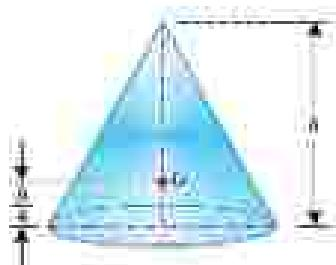

Fig. 6.7. Right circular solid cone.
10. The centroid of right circular solid cone is at a distance of $h/4$ from its base, measured along the vertical axis as shown in Fig. 6.7.